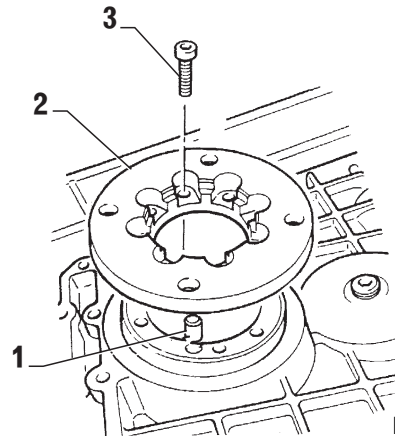

FIG. 5-6a
- Drive parallel pins (item 1, Fig. 5-6a) into output flange (item 2, Fig. 5-6a)
- Screw output flange with socket head bolts (item 3, Fig. 5-6a) on output shaft
- a) Unscrew output flange (see Fig. 5.6a)